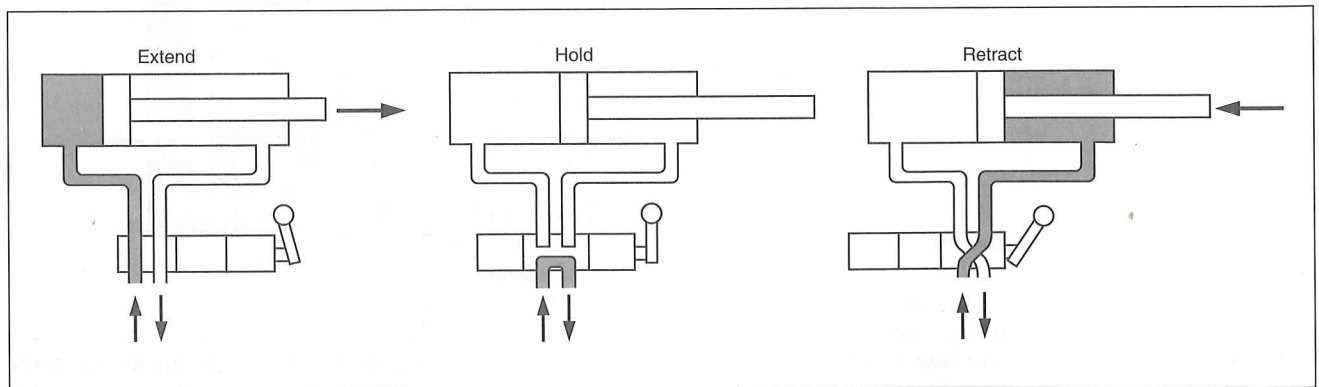

Fig. 9-16 — A three-position, four-way valve can power an actuator to extend the rod; hold a load in an intermediate position; and power the retract stroke.
**Way.** This term refers to the possible flow paths through a valve. A check valve that permits fluid to flow in only one direction is a one-way valve. A two-way valve has two ports and allows flow in either direction. A common directional-control valve is shown in Fig. 9-16.